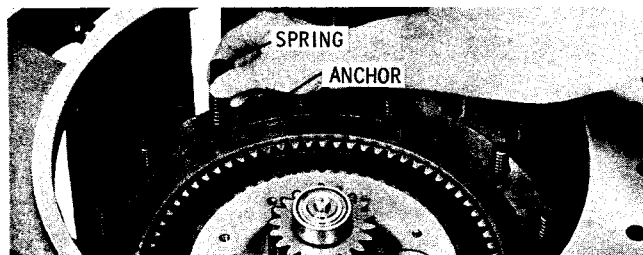

Fig. 7-15. Installing intermediate-range clutch piston return spring
(15) Install 14 intermediate-range clutch piston return springs into the clutch anchor (fig. 7-15).